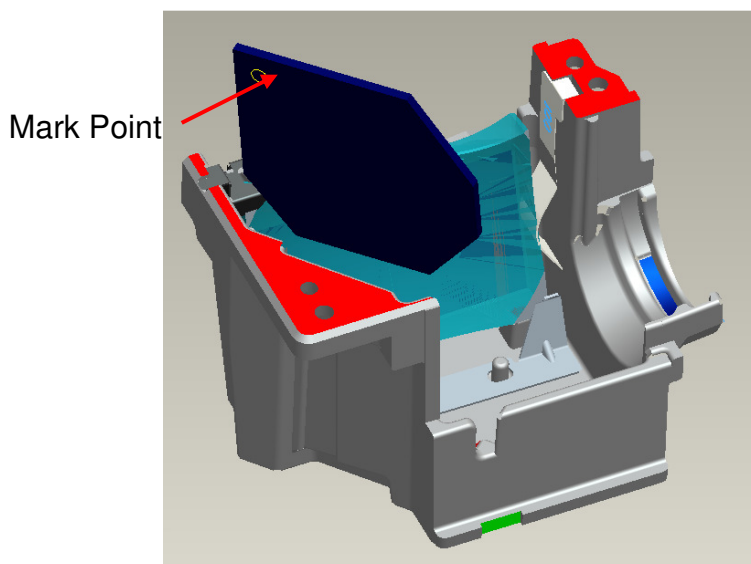

Fig. 2-3
- (1) Check mark point of FM and place FM on “Sub HSG” surface (Fig. 2-3, 2-4).